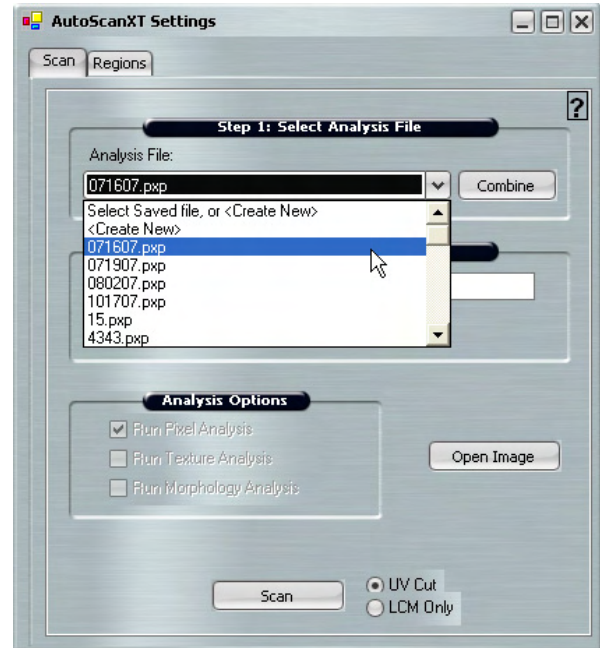

Figure 8. Open Saved Analysis File.
7. Select the desired saved Analysis file from the pull down menu located beneath “Select Analysis File” (Figure 8).